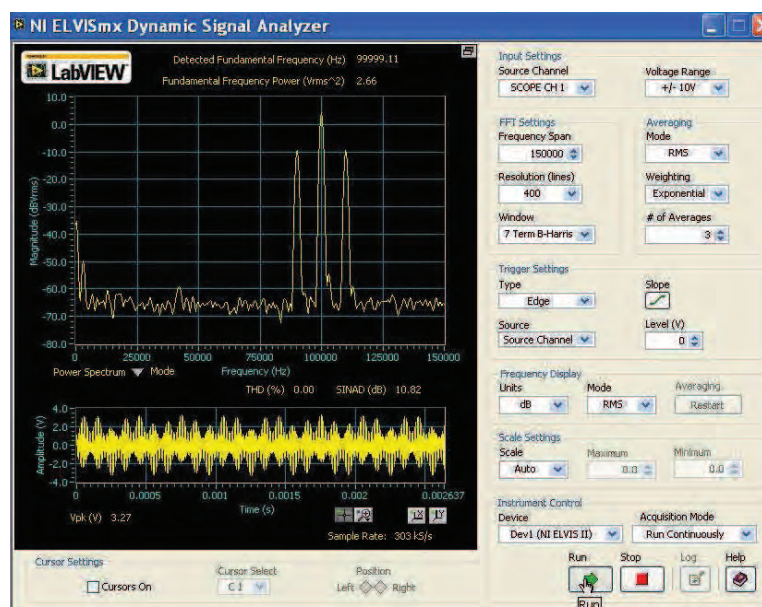

Figure 6
**Note:** If the Signal Analyzer VI has been set up correctly, its display should look like Figure 6 below.